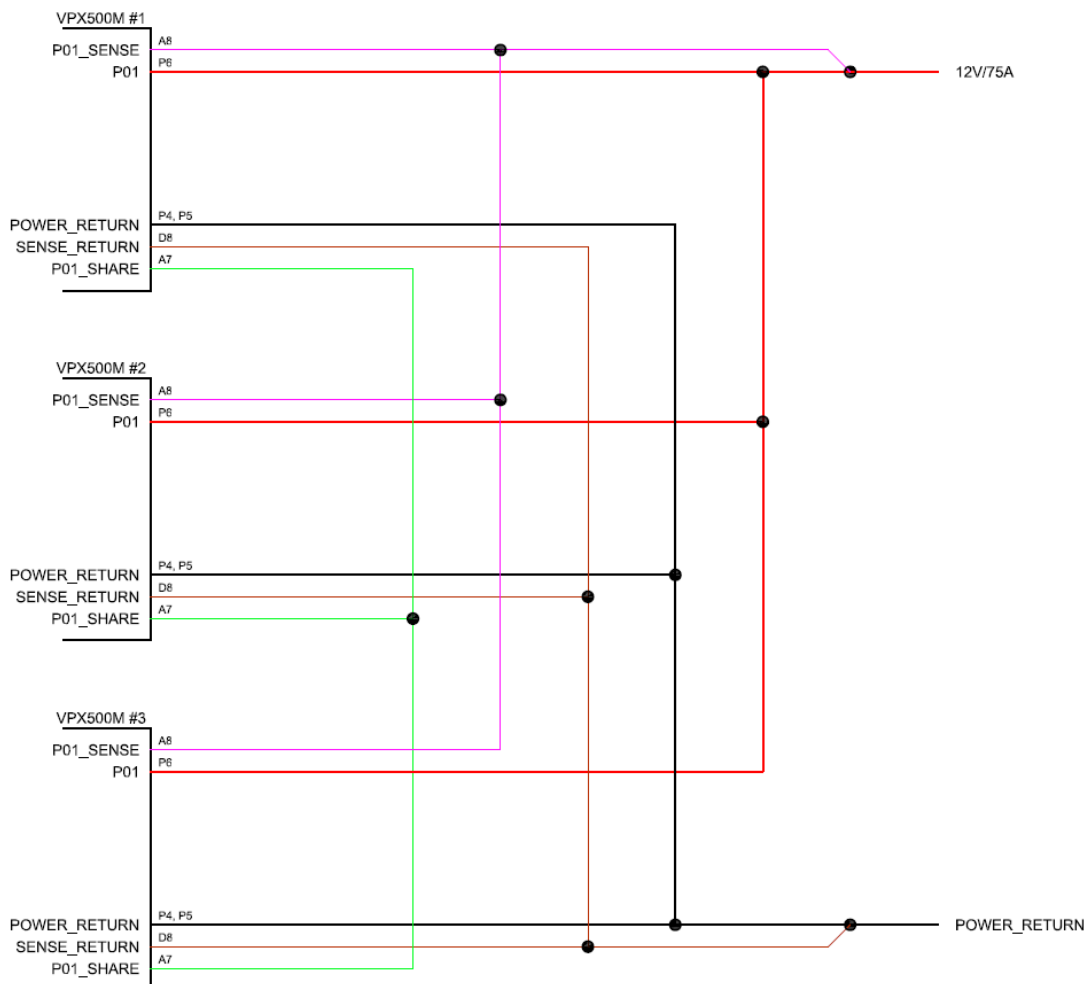

Figure 1: Connection Diagram for Parallel Operation of +12V Output
All three main outputs (+12V/25A, +5V/40A and +3.3V/15A) of Behlman’s VPXtra™500M series power supplies can be paralleled for higher output power and redundancy with one or more VPXtra™500M power supplies. See Figure 1 below for connections required.
- Figure 1 Shows typical connection diagram for parallel operation of +12V output similar connections shall be made to parallel both the +5V and +3.3V output